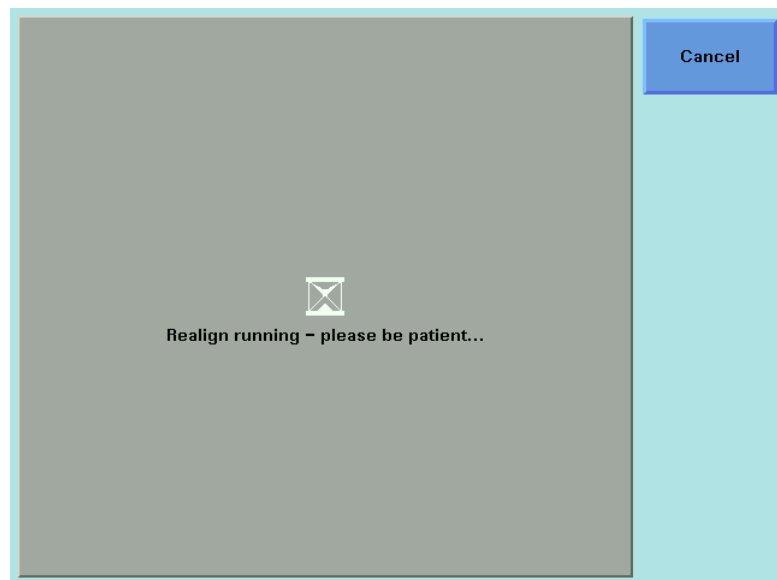

Figure 23 Realign Screen
- 2 Move to *<Realign>* and press [OK]. You will see the screen in Figure 23 .